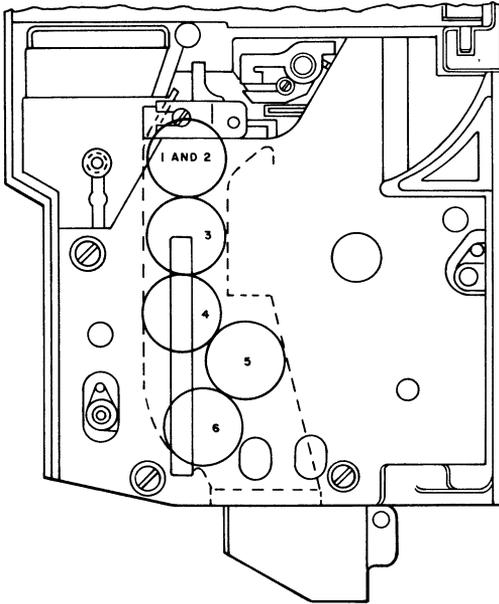

Fig. 42—Lower Portion of Coin Chute With Six Dimes Jammed
many as six dimes blocked at both ends as shown in Fig. 42, with the top two overlapped.
- (d) If two dimes are completely overlapped as shown in Fig. 42, proceed as follows.